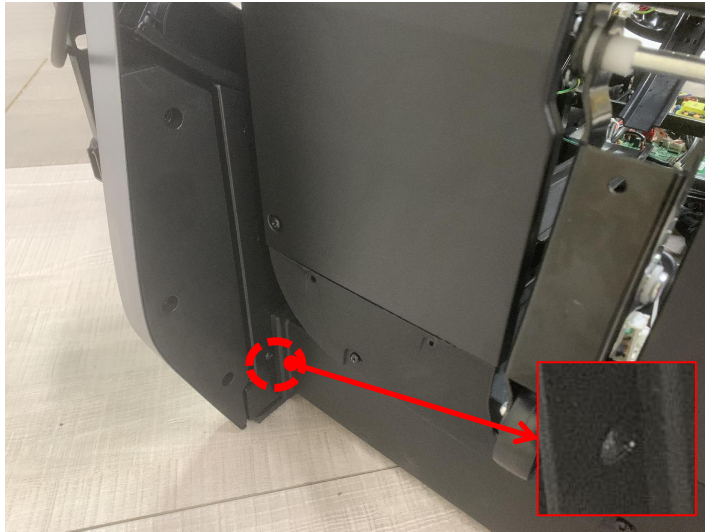

Figure 1
1. Remove one screw at the front end of the side cover (Figure 1)